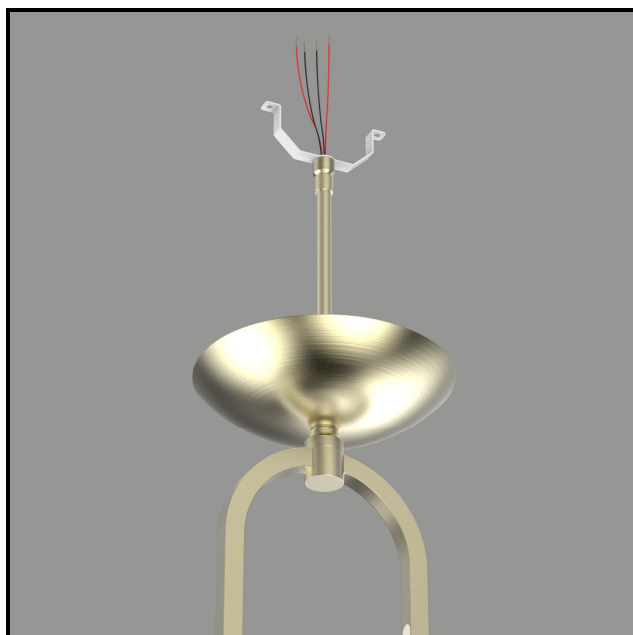

Figure 7
- Prepare main body for installation onto ceiling. (Figure 7)